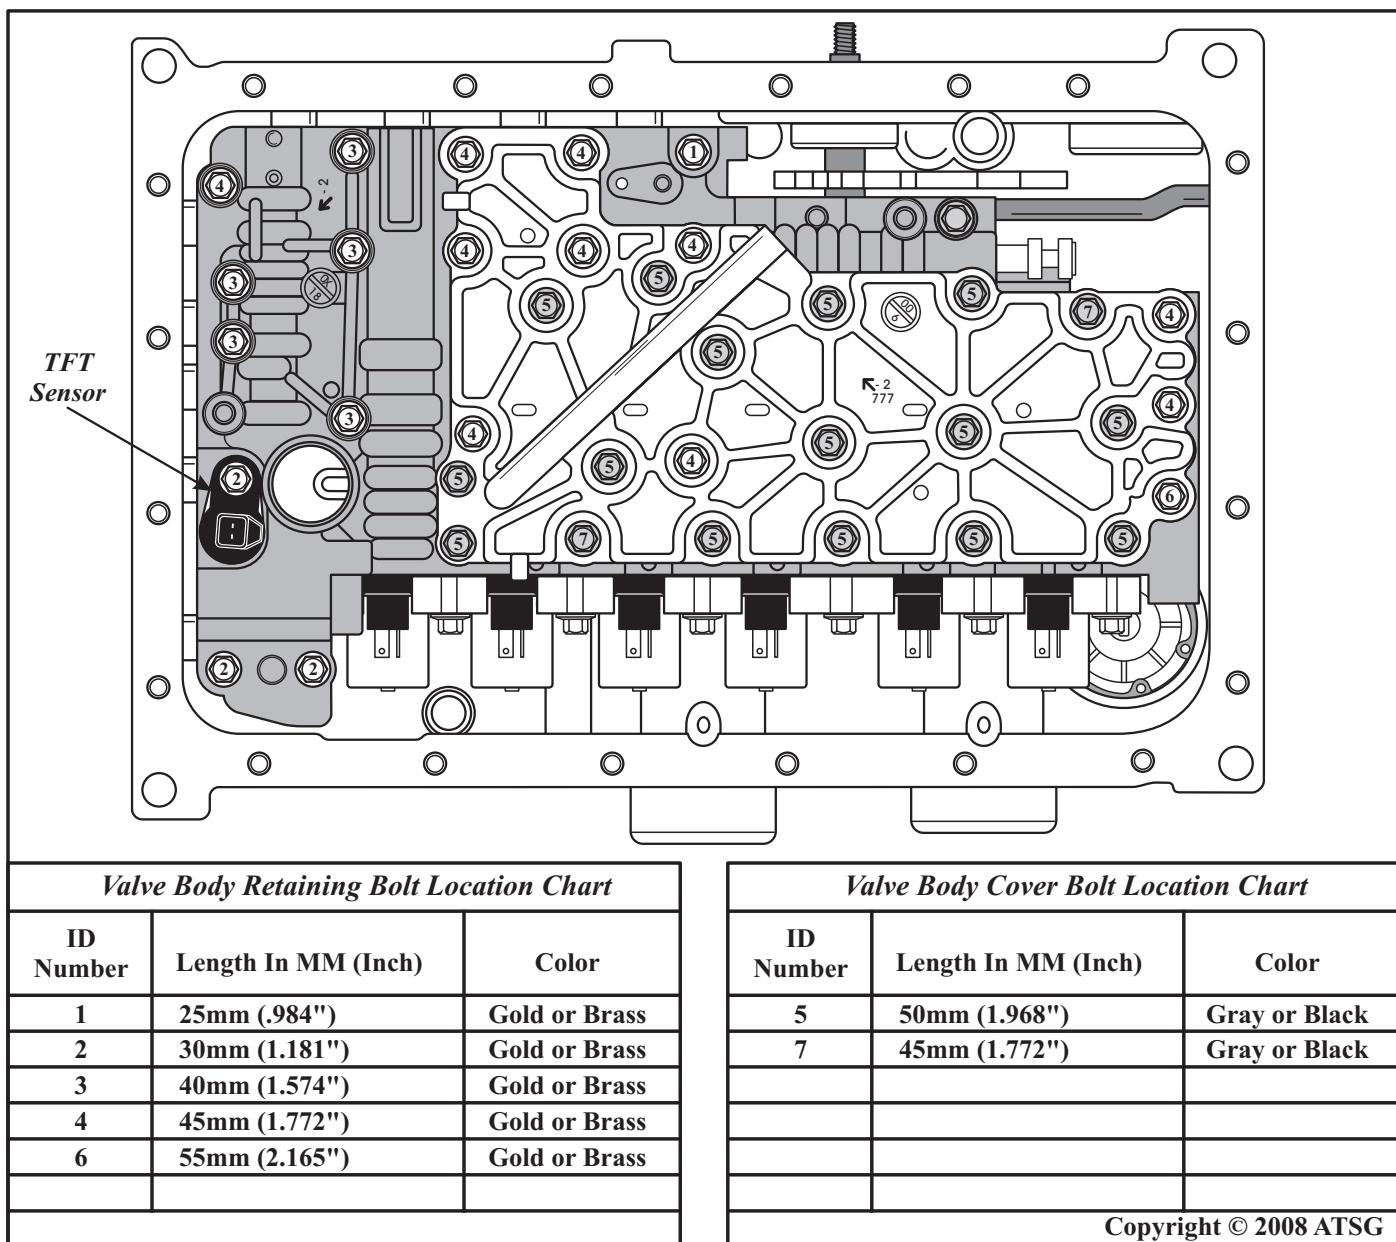

Figure 224
87. Use the chart in Figure 224 to install the proper length bolt in the proper position, hand tighten only at this time.